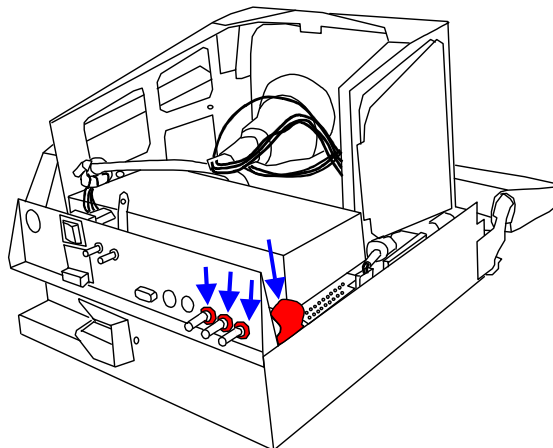

Fig. 6. 1-19. Nuts to be removed and connector to Motherboard
1. Unscrew the nuts ($\frac{1}{2}$ ") on the three connectors and disconnect the cable going to the Motherboard, see Fig. 6. 1-19.